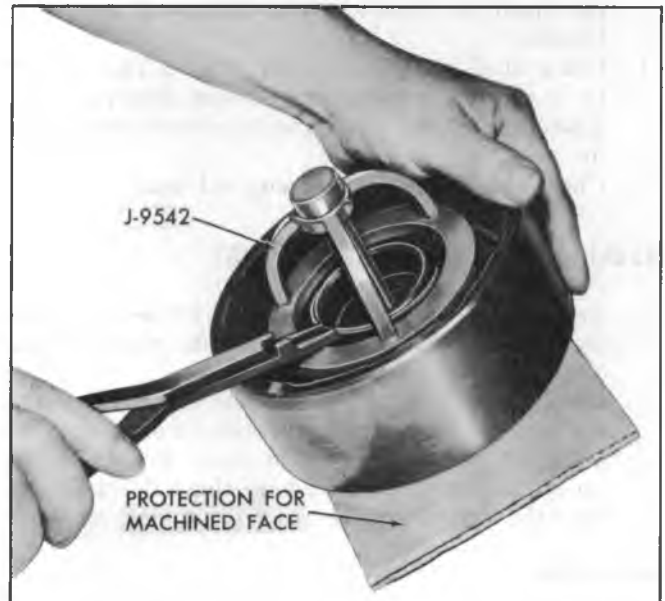

Fig. 20PG—Removing Clutch Spring Retainer Snap Ring
**CAUTION:** When working with the clutch drum, use extreme care that the machined face on the front of the drum (fig. 20PG) not be scratched, scored, nicked or otherwise damaged during any of the following service operations. This machined
4. Remove the spring retainer using J-9542 as shown in Figure 20PG, or if using an arbor press, use J-5133 and J-7782 adapter ring. Compress the springs far enough to allow removal of the retainer snap ring; then, releasing pressure on the springs, remove the retainer and the springs.